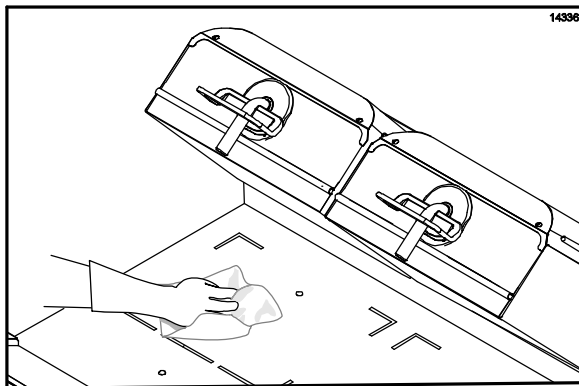

Figure 58
31. Rinse the lower grill surface with a clean, sanitizer-soaked grill cloth. (See Figure 58.)